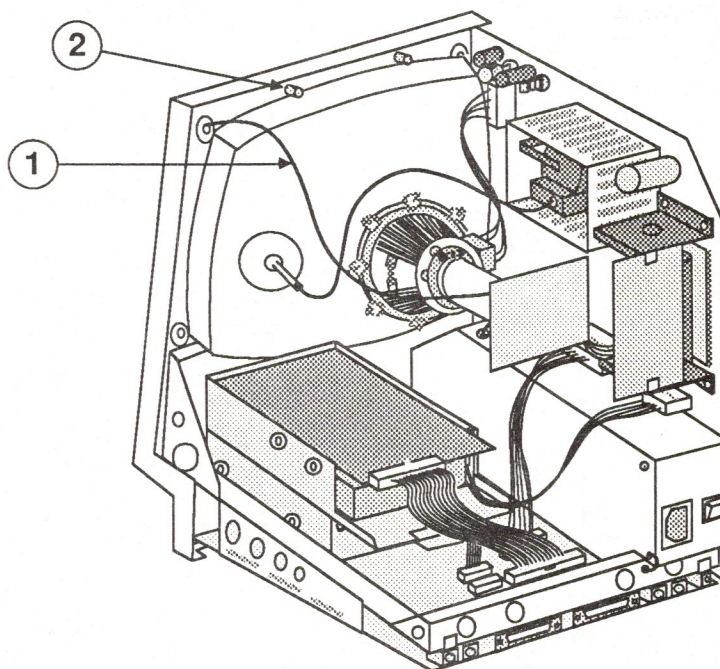

FIGURE 2
3. Slide the cover over the chassis and fit it into the front bezel, making sure the video ground cable (Figure 2, #1) is out of the way of the case screw holder (Figure 2, #2).